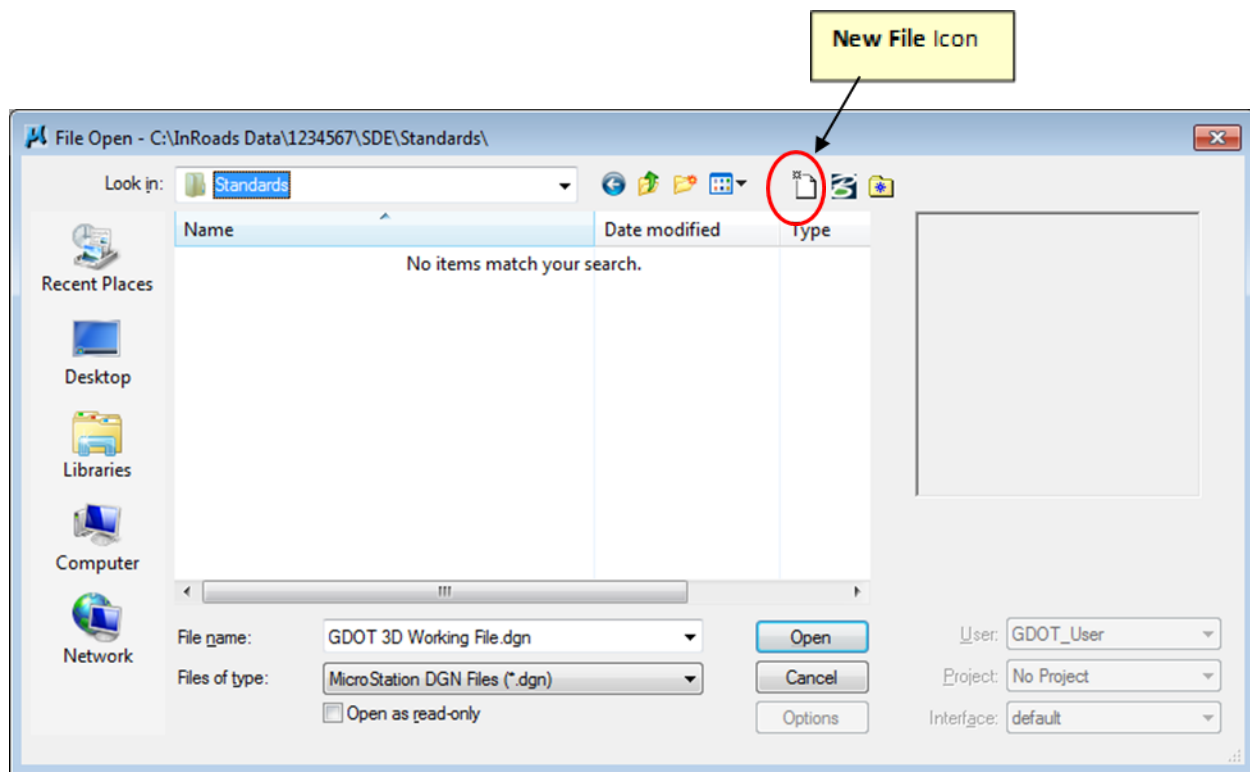

Figure 1-1 Starting MicroStation V8i and InRoads V8i
The MicroStation software will open first before InRoads. After the MicroStation Splash Screen appears, the MicroStation Manager dialog (See *Figure 1-1*) will open so that a “**Working**” DGN file can be created or an existing “**Working**” DGN file can be opened. The **InRoads** software can then be initiated.
2. After the MicroStation Splash Screen appears, the **MicroStation Manager** dialog box will open. (See *Figure 1-1*).
3. In the **MicroStation Manager** dialog box, click on the **New File** icon  (See Figure 1-1) depicted above. The **New File** command will be used to create the “Working” DGN file.